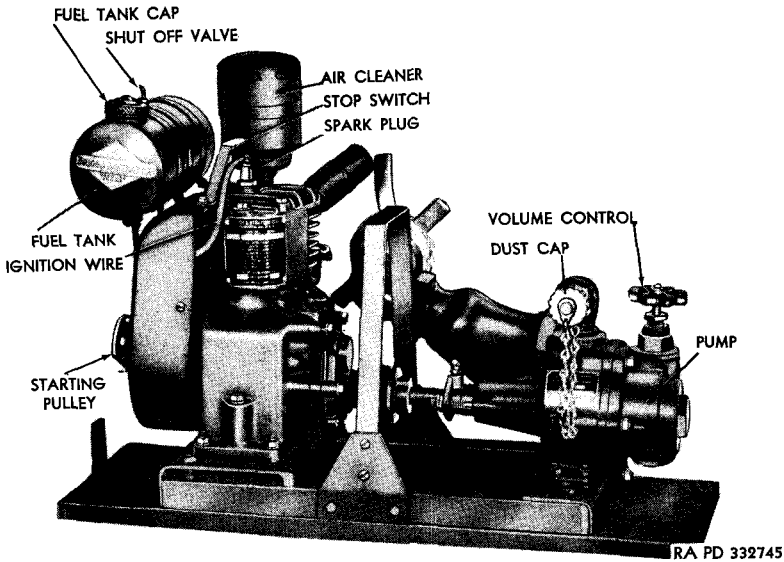

Figure 63—Portable Pump and Engine—Rear View
c. **Ignition Wire.** Insulation must not be broken, or soaked with oil or water, or grounded, where it touches the engine as this will interfere with good ignition. Check remove blower housing (fig. 63). Replace wire, if insulation is defective in any way.
72. REMOVAL, INSTALLATION AND ALINEMENT (fig. 63).